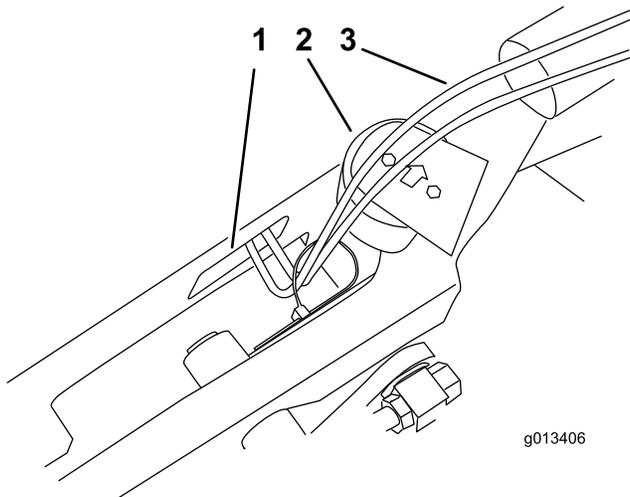
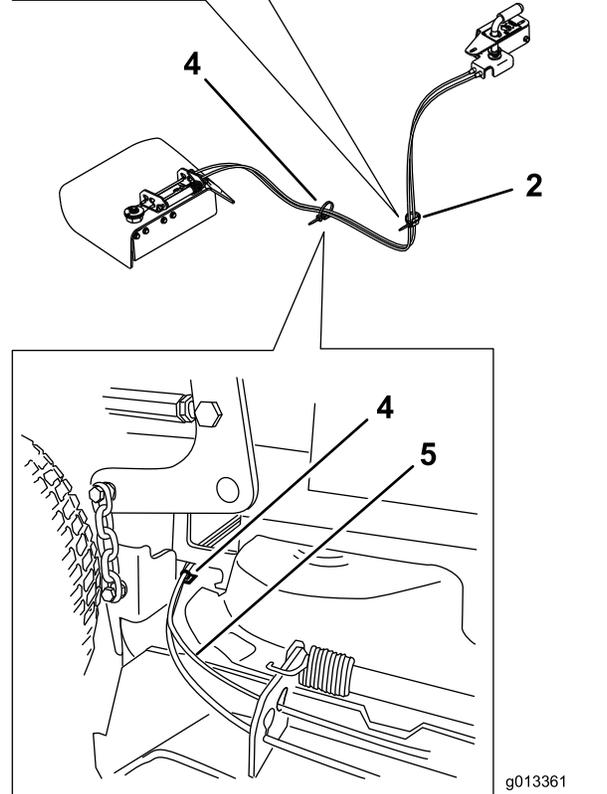

Figure 7
Figure 8
2. Route the cables through the rectangular opening on the left side of the engine base and between the engine base and deck on the right side of the machine (Figure 7 and Figure 8).
3. Install an adhesive back plastic mount on the vertical part of the frame tube just in front of the hydraulic oil filter. See Figure 8. Thread the cable tie through the plastic mount and secure the cables with the cable tie.
4. Install an adhesive back plastic mount on the top of the mower deck on the right side so the cables do not contact the clutch or belt drive. See Figure 8. Thread the cable tie through the plastic mount and secure the cables with the cable tie.